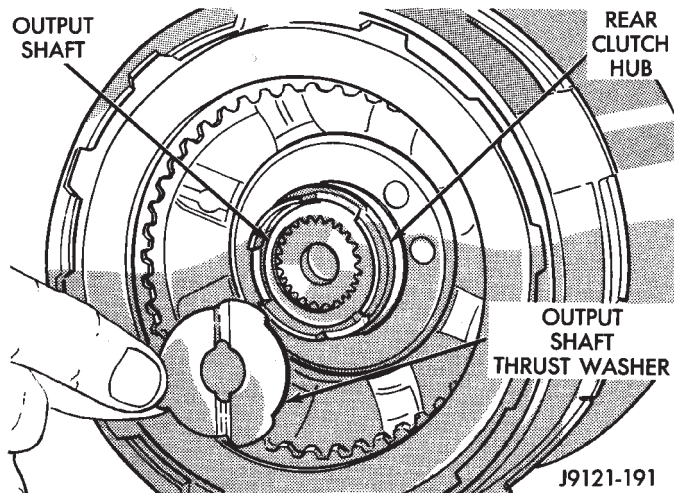

Fig. 101 Output Shaft Thrust Washer
(27) Check rear clutch thrust washer. Use additional petroleum jelly to hold washer in place if necessary.
(28) Coat output shaft thrust washer with petroleum jelly. Install washer in rear clutch hub (Fig. 101). Use enough petroleum jelly to hold washer in place. **Be sure grooved side of washer faces rearward (toward output shaft) as shown. Also note that washer only fits one way in clutch hub.**